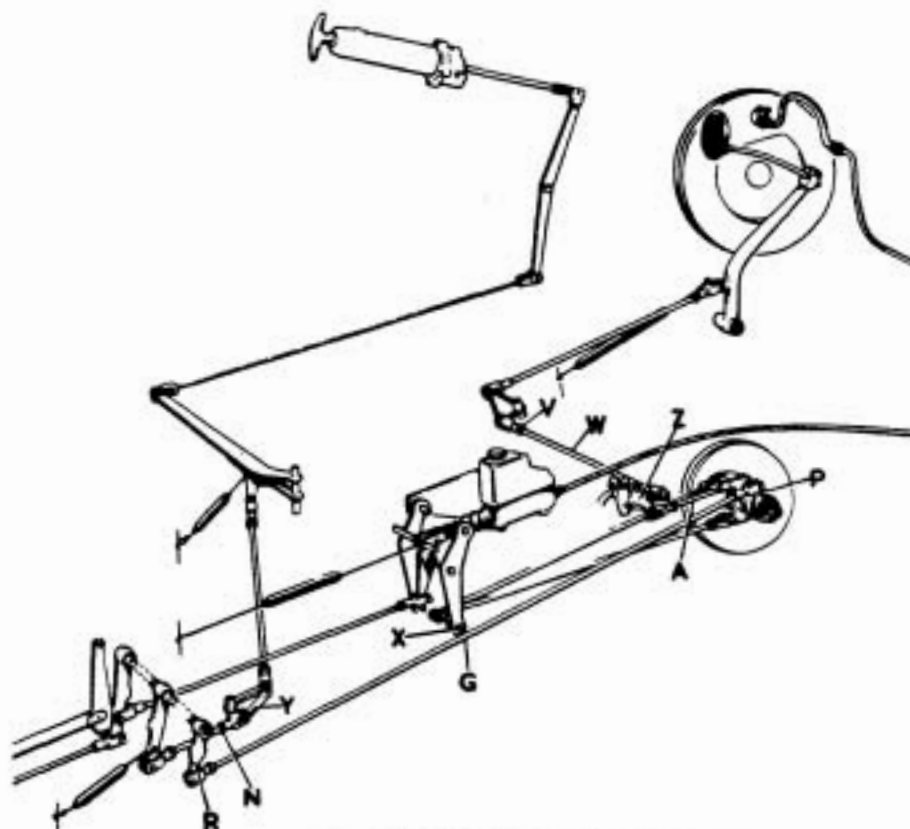

FIG. 3. SERVO AND BRAKE OPERATING RODS.
20. Remove the servo:- disconnect foot brake rod (A, Fig. 3), from lever (Z), disconnect hand brake lever rod (N) from lever (Y). Disconnect rod (G) from lever (R) and unscrew the rod from socket on actuating lever (P) of servo. Remove the $\frac{1}{2}$ " bolt (X) from master cylinder equaliser bracket to release the two drag link rods.
24. Disconnect foot brake, transfer rod at (W) Fig. 3, unscrew from joint (V) and remove.